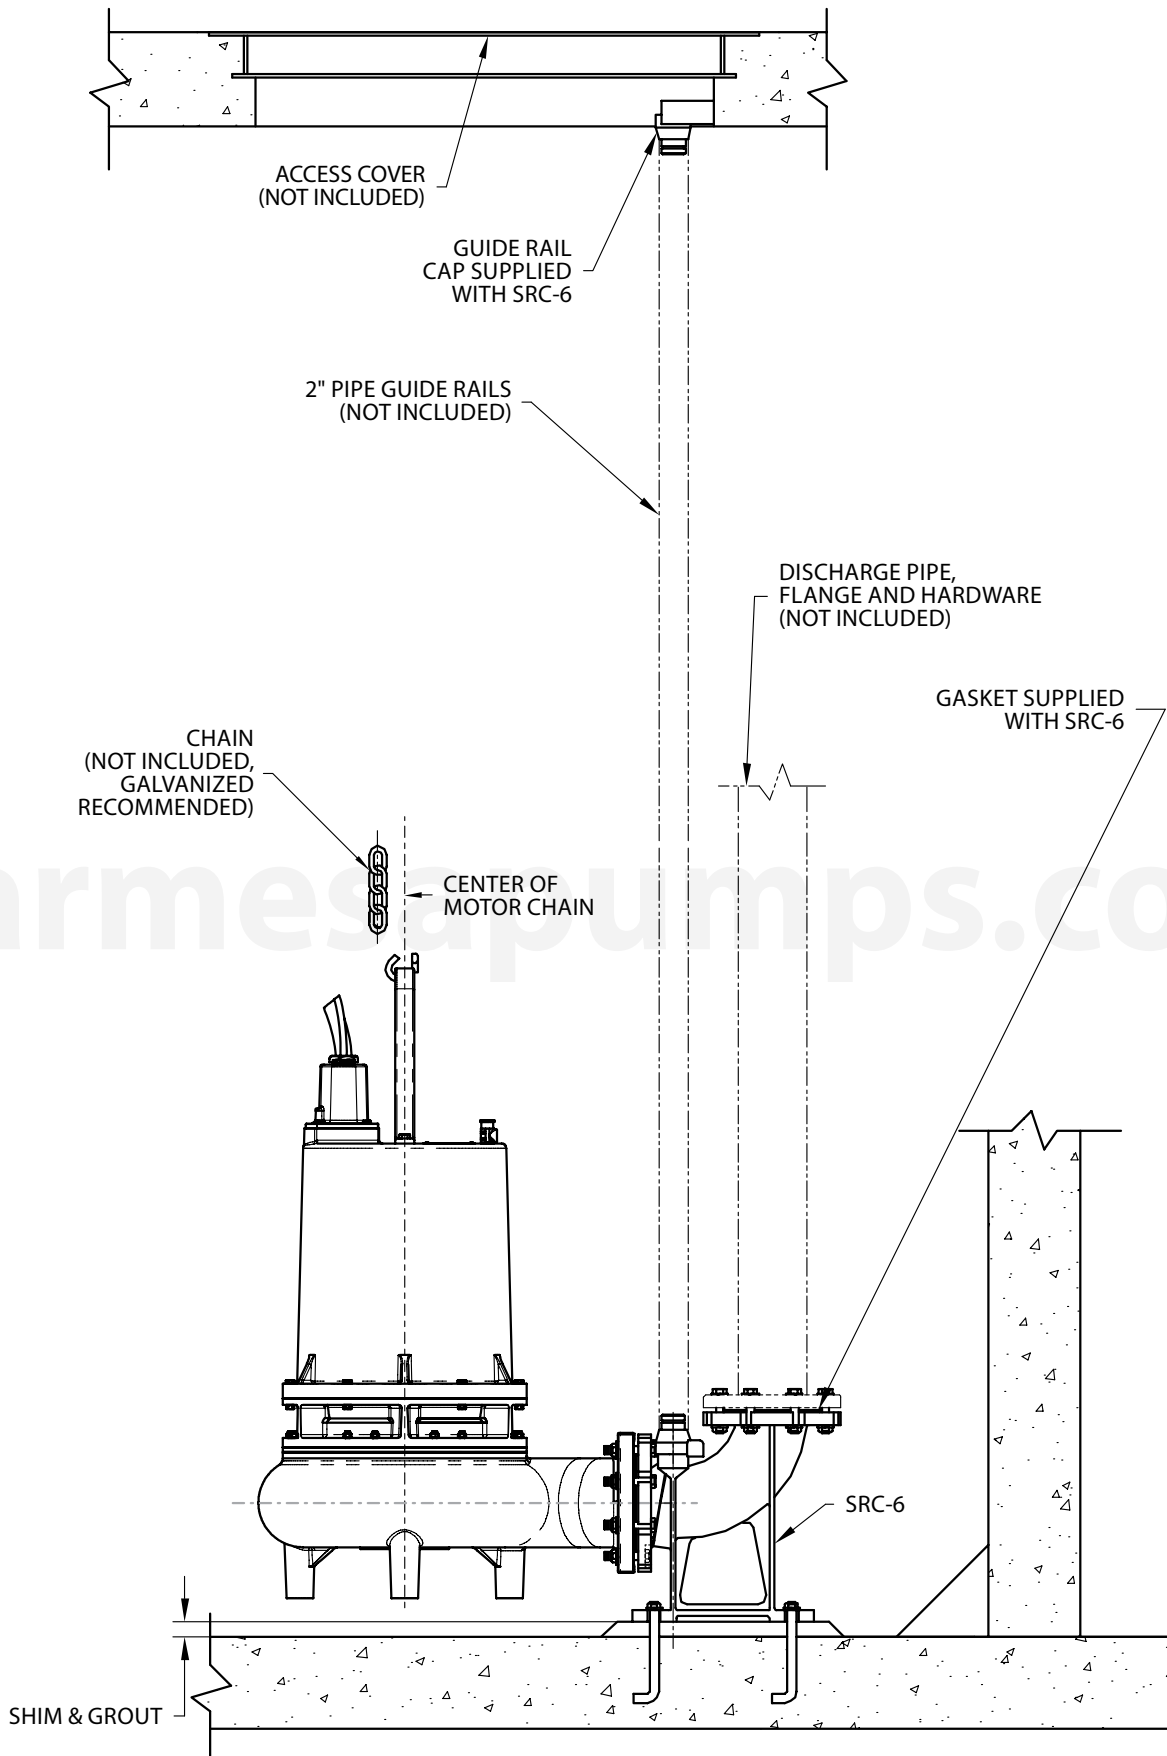

Figure 6
**Installing Pump to Slide Rail Coupling** - (See Figure 6) These instructions apply to all Barmesa pumps with a 125 lbs flange horizontal discharge on volute. All parts for standard and non-sparking SRC's are the same except for moveable assembly. SRC-6 standard assemblies use a cast iron moveable assembly.